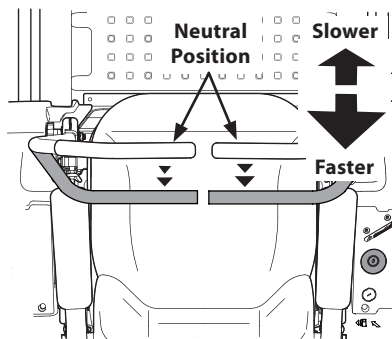

Figure 3-8
1. Slowly and evenly move both drive control levers rearward. The tractor will start to move in the reverse direction. See Figure 3-8.